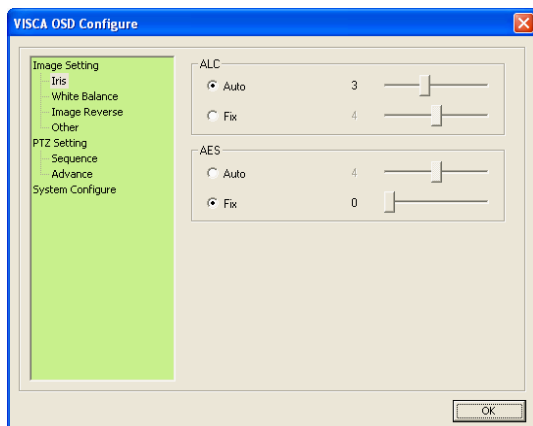

Figure 11-17
- **Load Camera Default:** Loads the factory default setting of Iris, White Balance, Image Reverse and Other in the VISCA OSD Configuration dialog box (Figure 11-17).